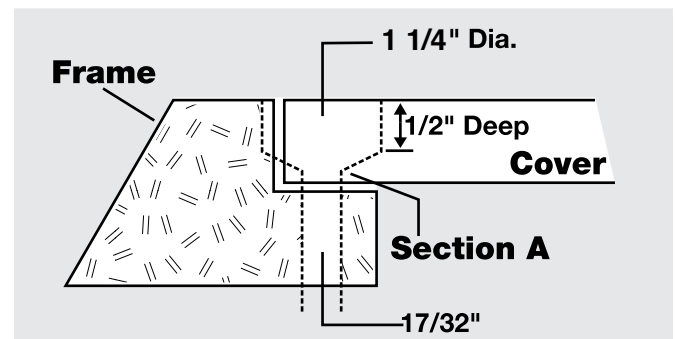

Figure 3
STEP 3: Counterbore 1-1/4" diameter to 1/2" depth, NOT including taper (See Figure 3).
When drilling the counterbore, the bit must not go completely through the cover. Bolt seating area must be on the cover and is permissible on the frame (See Section A, Figure 3).